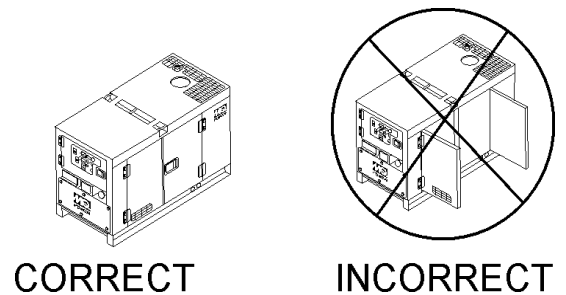

Figure 44. Engine Enclosure Doors
3. Close all engine enclosure doors (Figure 44).